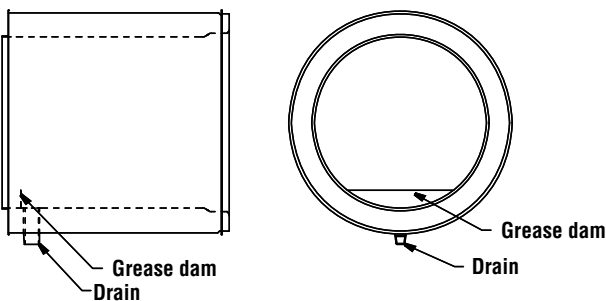

Figure 67 - Horizontal Drain length
- The adjustable length assembly includes a sliding inner section, two containing rings, one compression band, a graphite packing gasket, an insulation band (DIS only) and a telescopic outer casing. There is a tool supplied with this assembly. (see **Figure 67**).
1. Horizontal Drain length is equipped with a 1" (25) NPT nipple, which is attached to the inner flue and extends through the outer casing to provide a path to drain grease, condensate or wash water from the duct. See **Figure 67**.